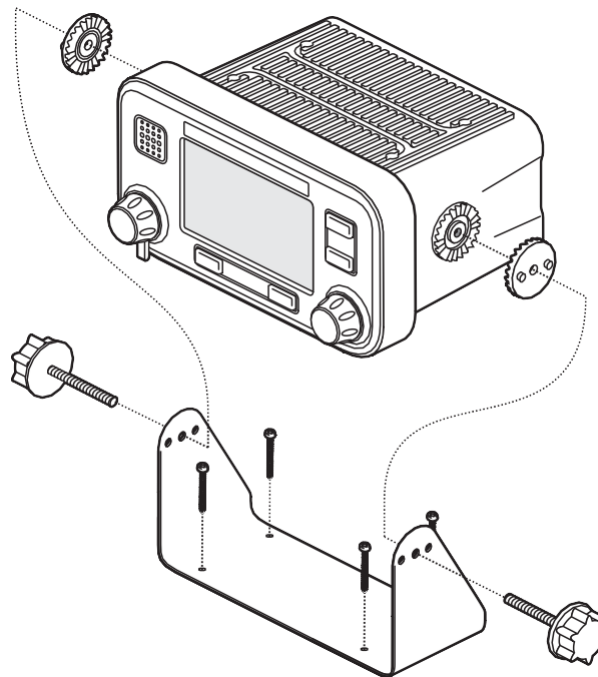

Figure 33 Mounting the AIS transceiver
- The transceiver is supplied with four self tapping screws for attachment of the AIS transceiver to a suitable surface using the trunnion bracket. Please refer to Figure 33 for guidance.